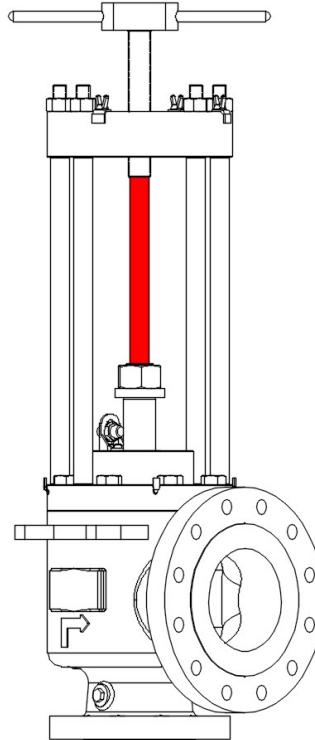

Figure 6: Installation of the Reset Tool at Plug full lift
3. The valve is in open position with the used Buckling Pin as shown in Figure 6 below, remove the used Buckling Pin by unscrewing the Adjuster screw by placing Reset Tool (Item 3 of Figure 5) on the hexagonal head (Item 1 of Figure 5) until the used Buckling Pin can be removed.
4. To reseat the Plug (Item 2 of Figure 5) assemble the Shipping pin between the Adjuster Screw pin holder and Plug pin holders as shown in the Figure 6 with valve Plug in activated position. Lower the Adjuster Screw until the Shipping pin fixed firmly between the Adjuster Screw and the Plug.